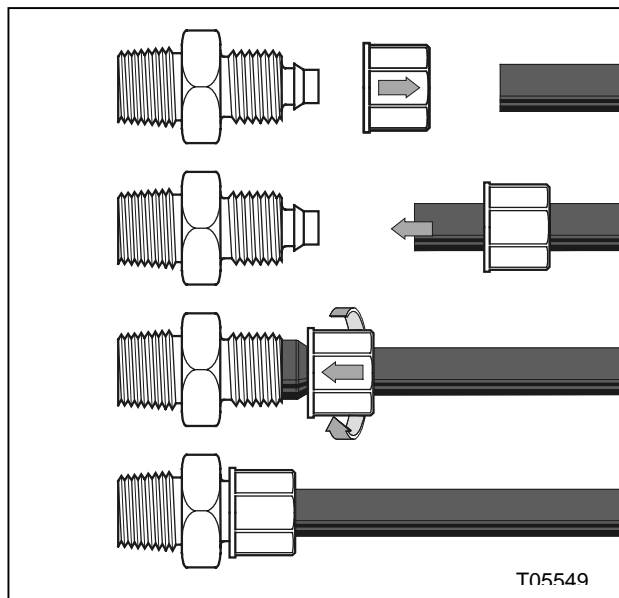

Figure 5: Assembling bead-forming fittings
- 2) Begin assembling by inserting the tube through the nut (see Figure 5).